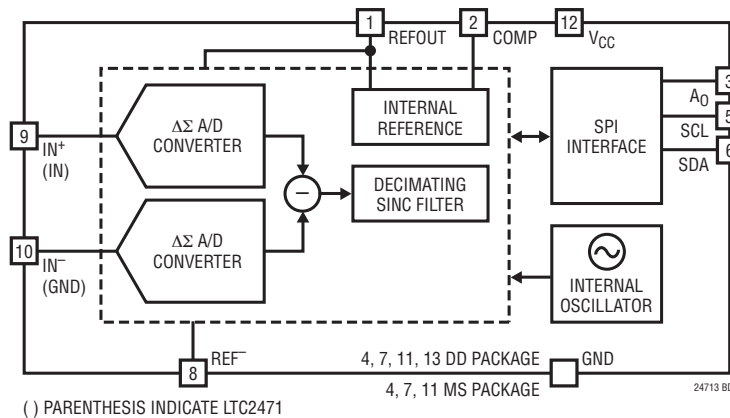
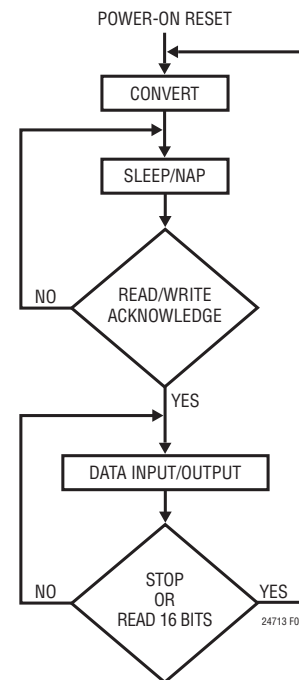
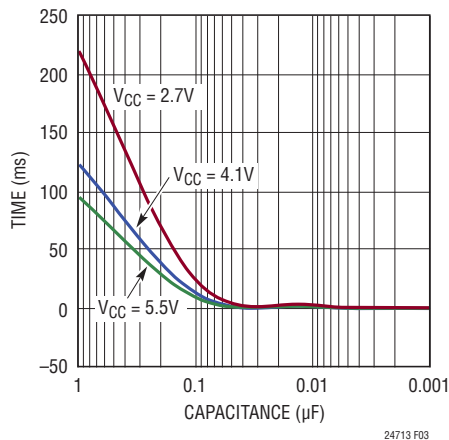
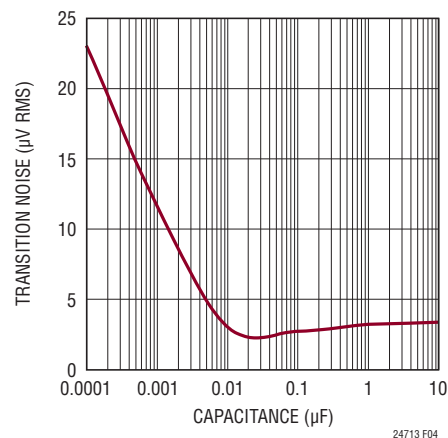

Figure 1. Functional Block Diagram
Figure 2. LTC2471/LTC2473 State Transition Diagram
Figure 3. Reference Start-Up Time vs V_{REF} and Compensation Capacitance
Figure 4. Transition Noise RMS vs COMP and Reference Capacitance
The LTC2471/LTC2473 are low power, delta sigma, analog to digital converters with a simple I²C interface and a user selected 250sps/1ksps output rate (see Figure 1). The LTC2473 has a fully differential input while the LTC2471 is single-ended. Both are pin and software compatible. Their operation is composed of three distinct states: CONVERT, SLEEP/NAP, and DATA INPUT/OUTPUT. The operation begins with the CONVERT state (see Figure 2). Once the conversion is finished, the converter automatically powers down (NAP) or under user control, both the converter and reference are powered down (SLEEP). The conversion result is held in a static register while the device is in this state. The cycle concludes with the DATA INPUT/OUTPUT state. Once all 16-bits are read or an abort is initiated, the device begins a new conversion.
While in the SLEEP/NAP state, the LTC2471/LTC2473's converters are powered down. This reduces the supply current by approximately 70%. While in the NAP state the reference remains powered up. The user can power down both the reference and the converter by enabling the sleep mode during the DATA INPUT/OUTPUT state. Once the next conversion is complete with the sleep mode enabled, the SLEEP state is entered and power is reduced to 2 μ A (maximum). The reference is powered up once a valid read/write is acknowledged. The reference startup time is 12ms (if the reference and compensation capacitor values are both 0.1 μ F). As the reference and compensation capacitors are decreased, the startup time is reduced (see Figure 3), but the transition noise increases (see Figure 4).
approximately 0.5ms. For proper operation V_{DD} needs to be restored to normal operating range (2.7V to 5.5V) before the conclusion of the POR cycle. The POR signal clears all internal registers. Following the POR signal, the LTC2471/LTC2473 start a conversion cycle and follow the succession of states shown in Figure 2. The reference startup time following a POR is 12ms ($C_{COMP} = C_{REFOUT} = 0.1\mu$ F). The first conversion following power-up will be invalid if the reference voltage has not completely settled (see Figure 3). The first conversion following power up can be discarded using the data abort command or simply read and ignored. Depending on the value chosen for C_{COMP} and C_{REFOUT} , the reference startup can take more than one conversion period, see Figure 3. If the startup time is less than 1ms (1kps output rate) or 4ms (250sps output rate) then conversions following the first period are accurate to the device specifications. If the startup time exceeds 1ms or 4ms then the user can wait the appropriate time or use the fixed conversion period as a startup timer by ignoring results within the unsettled period. Once the reference has settled, all subsequent conversion results are valid. If the user places the device into the sleep mode ($SLP = 1$, reference powered down) the reference will require a startup time proportional to the value of C_{COMP} and C_{REFOUT} (see Figure 3).
The speed bit (SPD) determines the output rate, SPD = 0 (default) for a 250sps and SPD = 1 for a 1kpsps output rate. The sleep bit (SLP) is used to power down the on-chip reference. In the default mode, the reference remains powered up at the conclusion of each conversion cycle while the ADC is automatically powered down at the end of each conversion cycle. If the SLP bit is set HIGH, the reference and the ADC are powered down once the next conversion cycle is completed. The reference and ADC are powered up again once a valid read/write is acknowledged. The following conversion is invalid if the next conversion is started before the reference has started up (see Figure 3 for reference startup times as a function of compensation capacitor and reference capacitor).
The on chip 1.25V reference is internally tied to the converter's reference input and is output to the REFOUT pin. A 0.1 μ F capacitor should be placed on the REFOUT pin. It is possible to reduce this capacitor, but the transition noise increases (see Figure 4). A 0.1 μ F capacitor should also be placed on the COMP pin. This pin is tied to an internal point in the reference and is used for stability. In order for the reference to remain stable, the capacitor placed on the COMP pin must be greater than or equal to the capacitor tied to the REFOUT pin. The REFOUT pin cannot be overridden by an external voltage.
0.1 μ F capacitors are used. The first conversion following power up can be discarded using the data abort command or simply read and ignored. Depending on the value chosen for C_{COMP} and C_{REFOUT} , the reference startup can take more than one conversion period, see Figure 3. If the startup time is less than 1ms (1ksps output rate) or 4ms (250sps output rate) then conversions following the first period are accurate to the device specifications. If the startup time exceeds 1ms or 4ms then the user can wait the appropriate time or use the fixed conversion period as a startup timer by ignoring results within the unsettled period. Once the reference has settled all subsequent conversion results are valid. If the user places the device into the sleep mode ($SLP = 1$, reference powered down) the reference will require a startup time proportional to the value of C_{COMP} and C_{REFOUT} , see Figure 3.